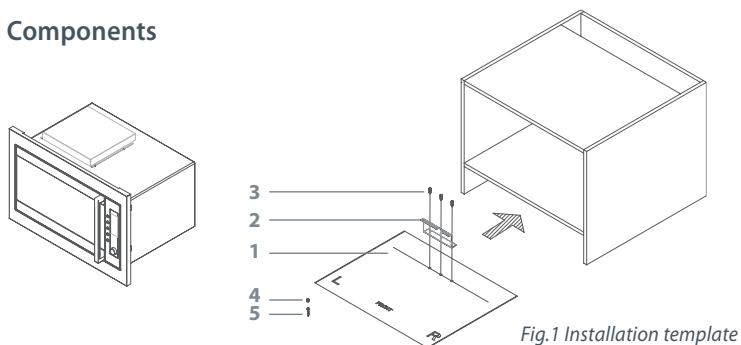
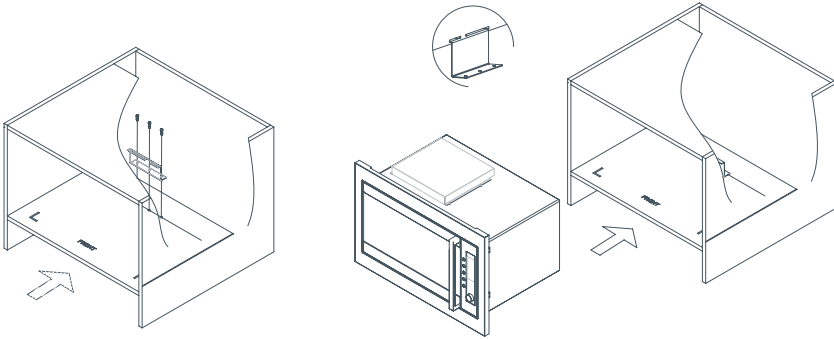

Fig.1 Installation template
Fig.3 Fixing the mounting bracket
- 1 Align the installation template (1) with the front edge of the cavity base (refer to Fig.1). Fix the mounting bracket (2) to the base of the cavity in the position indicated on the installation template using the $\varnothing 4 \times 10$ screws (3) provided (refer to Fig.3).
- 2 Slide the microwave oven into the cavity. Keep the oven evenly spaced from cavity side walls. Push the oven back until it engages with the mounting bracket (2) (refer to Fig.3).